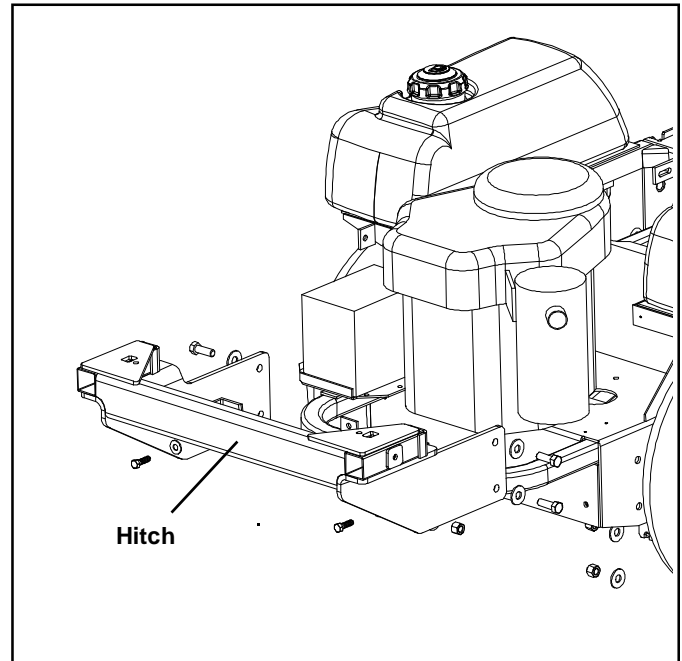

Figure 6
- Position Hitch to mower frame as shown in Figure 6 by aligning the holes in the Hitch to the holes drilled in the previous step. Enlarge holes in mower frame if needed to insert bolts. Attach Hitch to mower frame using two (2) 3/8" x 1-1/4" hex bolts, four (4) 3/8" flat washers, two (2) 3/8" nylon lock nuts, four (4) 1/2" x 1-1/4" hex bolts, eight (8) 1/2" flat washers, and four (4) 1/2" nylon lock nuts.